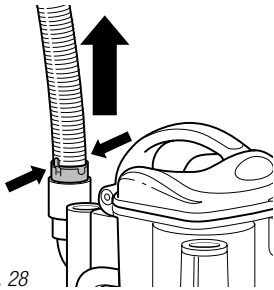

Fig. 28
- Detach the stretch hose from the back of the portable *Lift-Away*® canister by squeezing the tabs together and pulling up. **(Fig. 28)** Straighten out the hose and look inside for blockages.